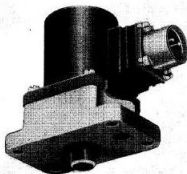

Fig. 1. Oil dilution valve, Type FGH
1. This valve (fig. 1) is an electromagnetic component and there are no unusual design features. Variations occur in the positioning of the electrical connections (fig. 2) and in the valve settings; there are no structural differences. A valve may be conveniently described in two parts, the coil case and coil assembly, and the valve body. The metering jet, which is usually fitted to the outlet port, is an item supplied separately according to the particular installation.